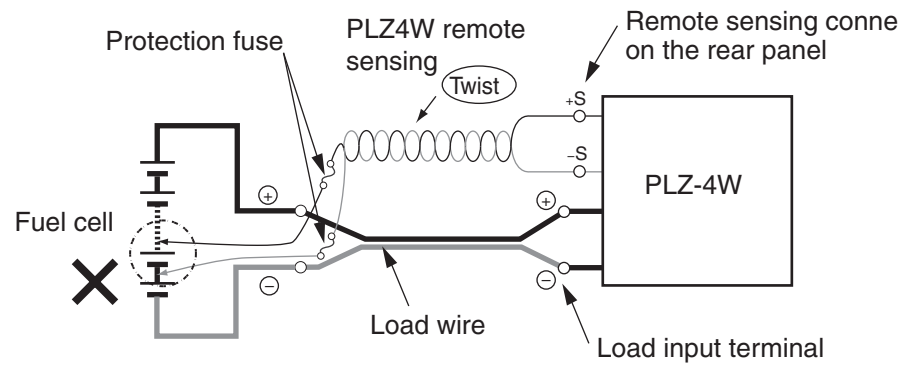

Fig. 2-5 Example of a unrecommended wiring
- The PLZ4W remote sensing circuit may break. Do not connect the remote sensing terminals (+S and -S terminals) on the rear panel of the PLZ-4W series directly to the cell of the fuel cell (Fig. 2-5).